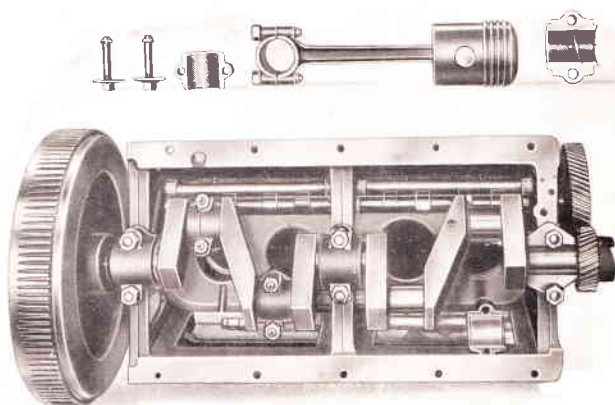

Figure 3.
Are cast en bloc of the finest Swedish cast iron. In the upper part of the crankcase are pillowed the crankshaft and the camshaft (see Figure 3). This arrangement, in conjunction with the use of high precision machinery, ensures an absolutely accurate setting of the various working parts, resulting in vibrationless running.
**Connecting Rods.** See Figure 3. These are drop forged from the finest Swedish steel, and are of "H"-section, and very deep, to give absolute rigidity. They are highly finished.
**Crankshaft.** See Figure 3. This, the most important part of any internal combustion engine, is of the latest design, and is made of the finest quality Swedish steel. Its dimensions are: Crank Neck 42×68 mm. ( $1\frac{21}{32} \times 2\frac{11}{16}$  inches); Crank Pin 45×50 mm. ( $1\frac{3}{4} \times 1\frac{31}{32}$  inches). It is most carefully balanced, and its ample proportions ensure absolutely even and vibrationless running. The bearings are easily accessible through the large inspection plates fitted at the sides of the crankcase.